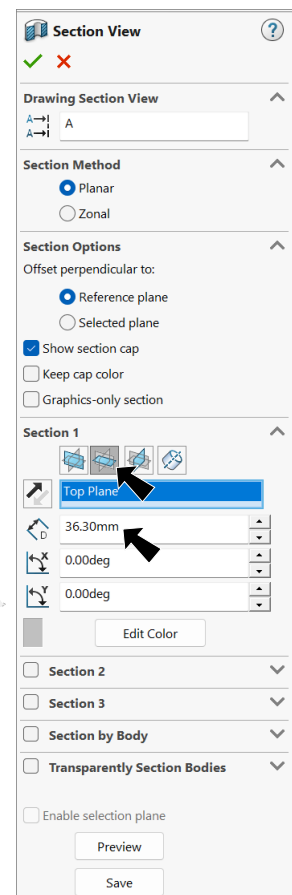

Fig. 20
Step 2. In the Section View Property Manager: under Section 1, Fig. 20